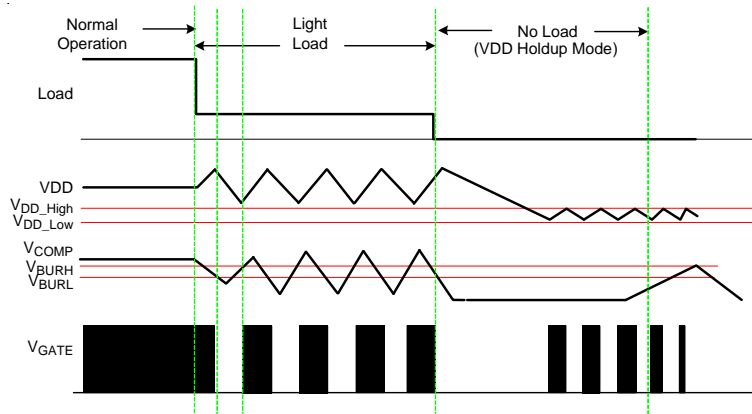

Figure 3. Burst Triple-Mode
To fulfill green mode requirement, there are 3 operation modes in R7731. Please also refer to Figure. 3 for details.
- **Burst Mode** : During light load, switching loss will dominate the power efficiency calculation. This mode is to cut switching loss. As shown in Figure 3, when